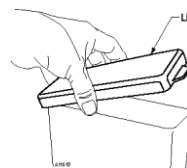

Figure 5e. Canister Lid
4. Remove lid from the canister. **Figure 5e**.
7. Replace canister lid. **Figure 5e**.